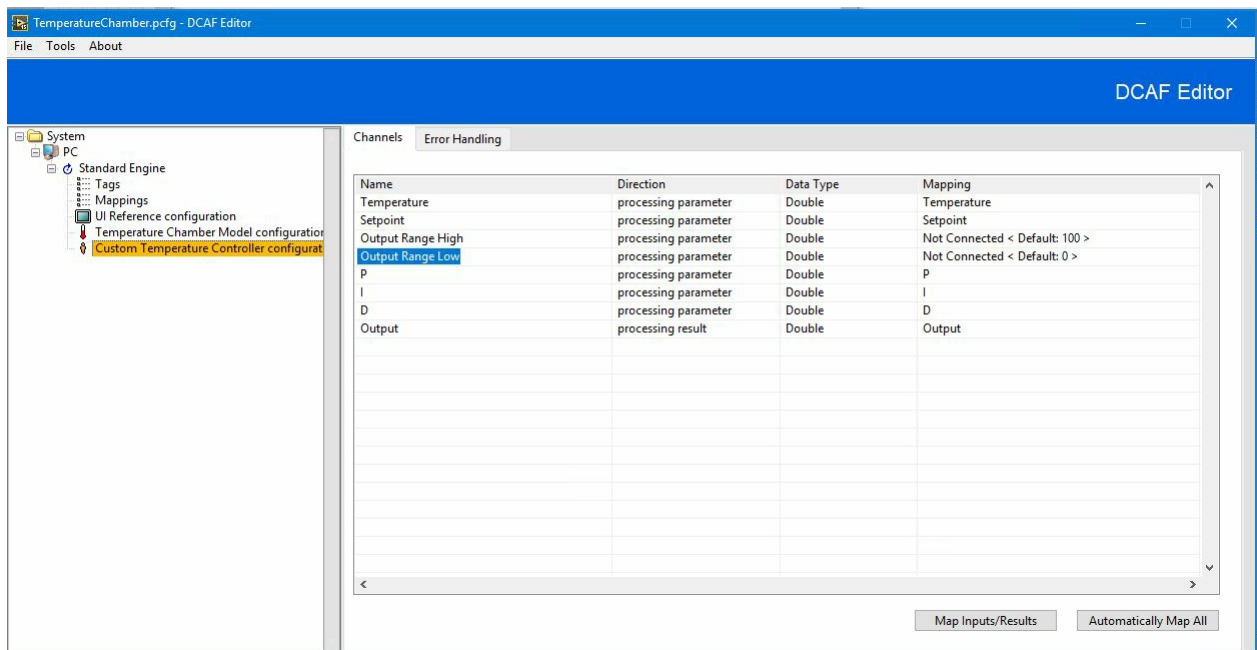

Figure 1.11
- For each processing parameter tag, right click on the column Mapped to System Tag and configure the channel to be mapped to the appropriate system tag. You can look at "Temperature Controller Logic" to identify the correct mapping, which looks like Figure 1.11: